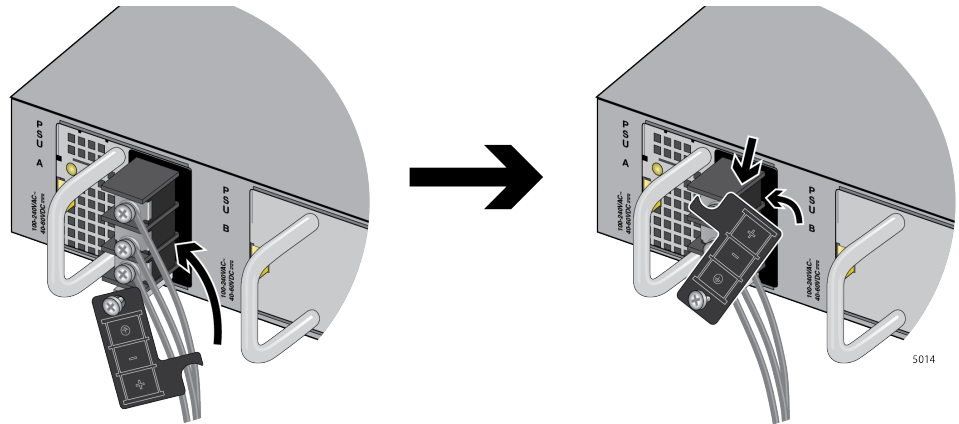

Figure 70. Placing the Cover Panel
8. Place the cover panel back to cover the connectors. Refer to Figure 70.